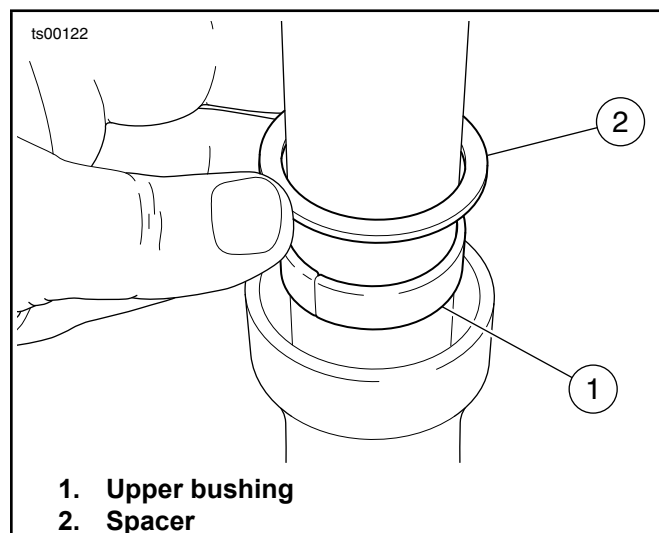

Figure 2.
1. See Figure 2. Install the upper bushing and spacer onto the slider tube.